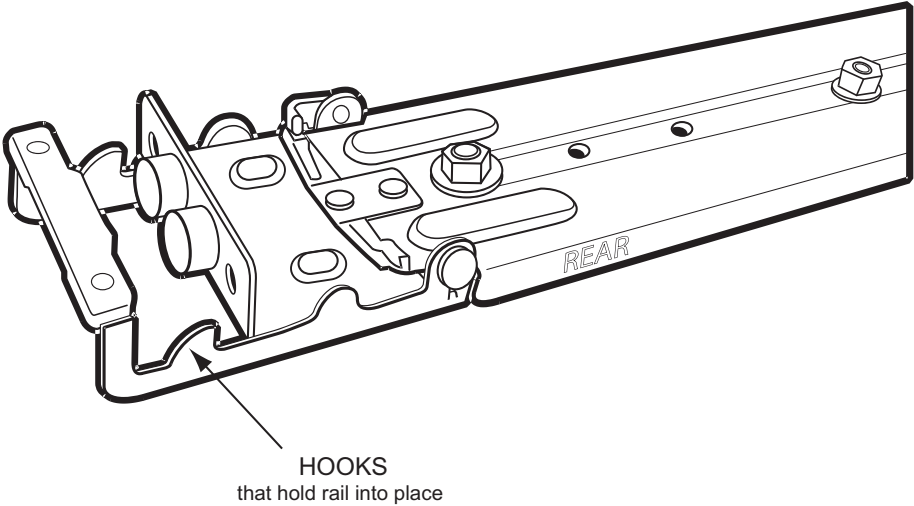
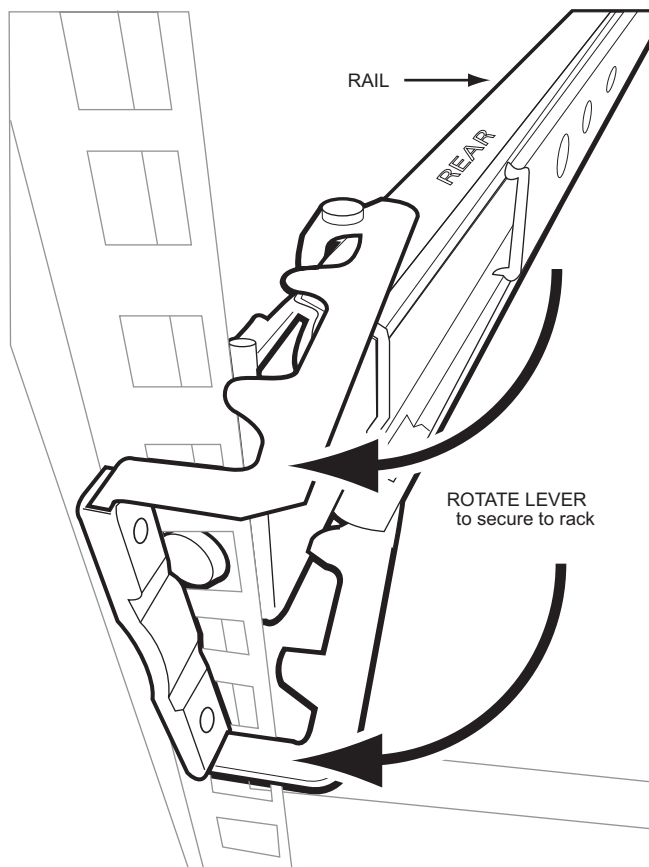

Figure 2.2 Detail View of Slider Rail Rear Retaining Hooks
Figure 2.3 Detailed View of Slider Rail Rear Retaining Hooks being Locked onto the Rear of the Equipment Rack
- 1b. Attach the rear end of the slider rail to the rear edge of the equipment rack. See figure 2.2 on page 13 and figure 2.3 on page 14.